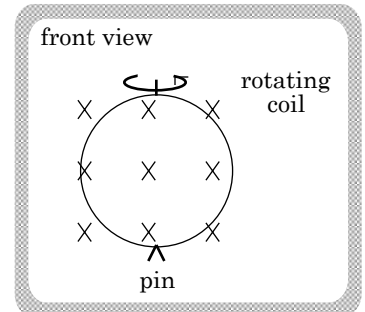

FIGURE 17.14
d.) Rotation as shown in Figure 17.14 depicts a situation in which the external magnetic flux through the coil's face is decreasing (the coil's magnetic flux is at a maximum going down). The only way to *oppose* a decrease in magnetic flux is to generate a magnetic flux that adds to the existing flux. In other words, we need a current that will produce a **B**-field in the same direction as the external **B**-field, or into the page.